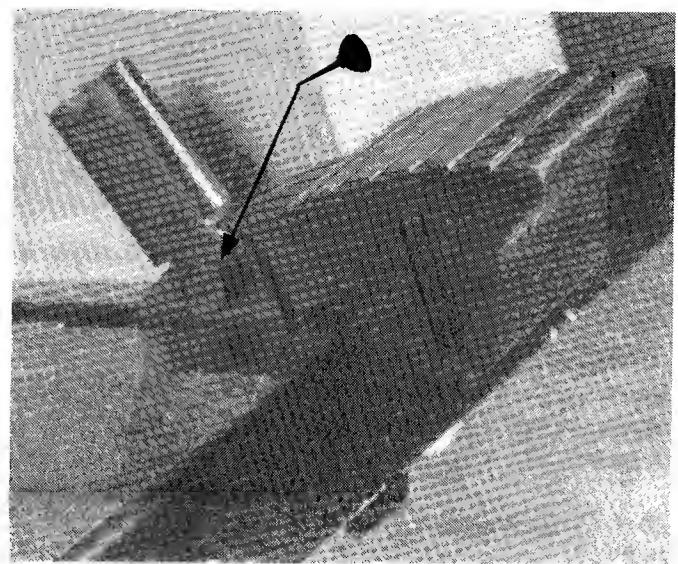
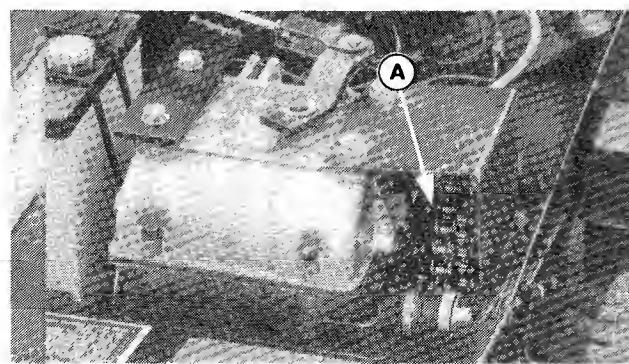

Figure 2. Lube Brake Pedal Pivot Points
Figure 6. Chain
10. Before leaving operator's position, set the parking brake and disengage the mower PTO. (The parking brake is shown set in figure 2.) Set the engine speed control to SLOW and allow the engine to idle for 20 seconds. Turn the key to OFF and remove it. Wait for moving parts to stop.
1. With an oil can, apply a few drops of oil to points indicated with oil can in figures 2 through 8. Oil the drive chain (figure 6) with an approved chain lubricant.